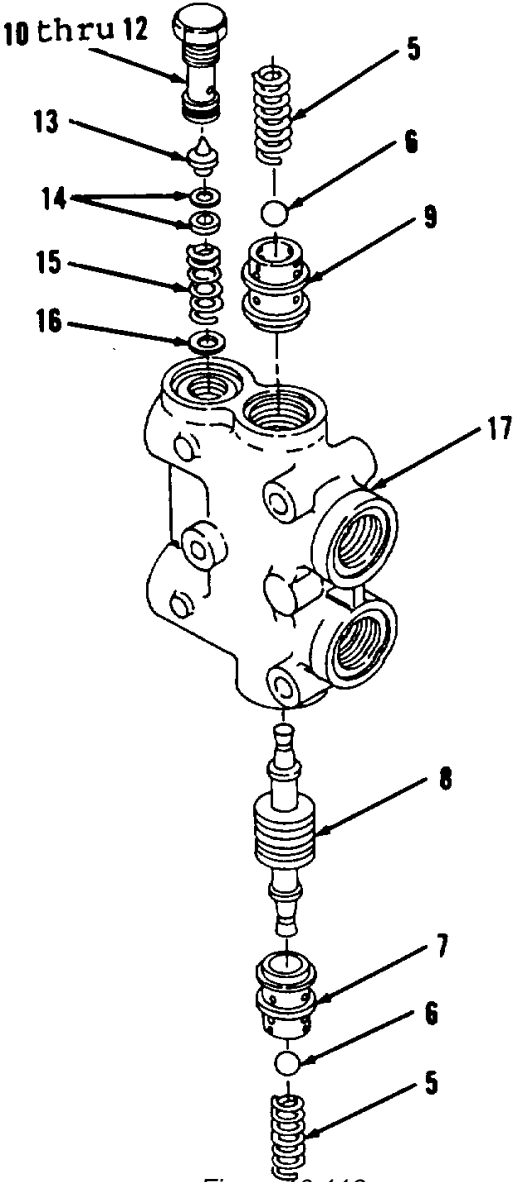

Figure 10-113.
- 11. Remove valve (13), shim(s) (14), spring (15) and washer (16, Figure 10-113). Tie shim(s) (14) together and tag for identification.